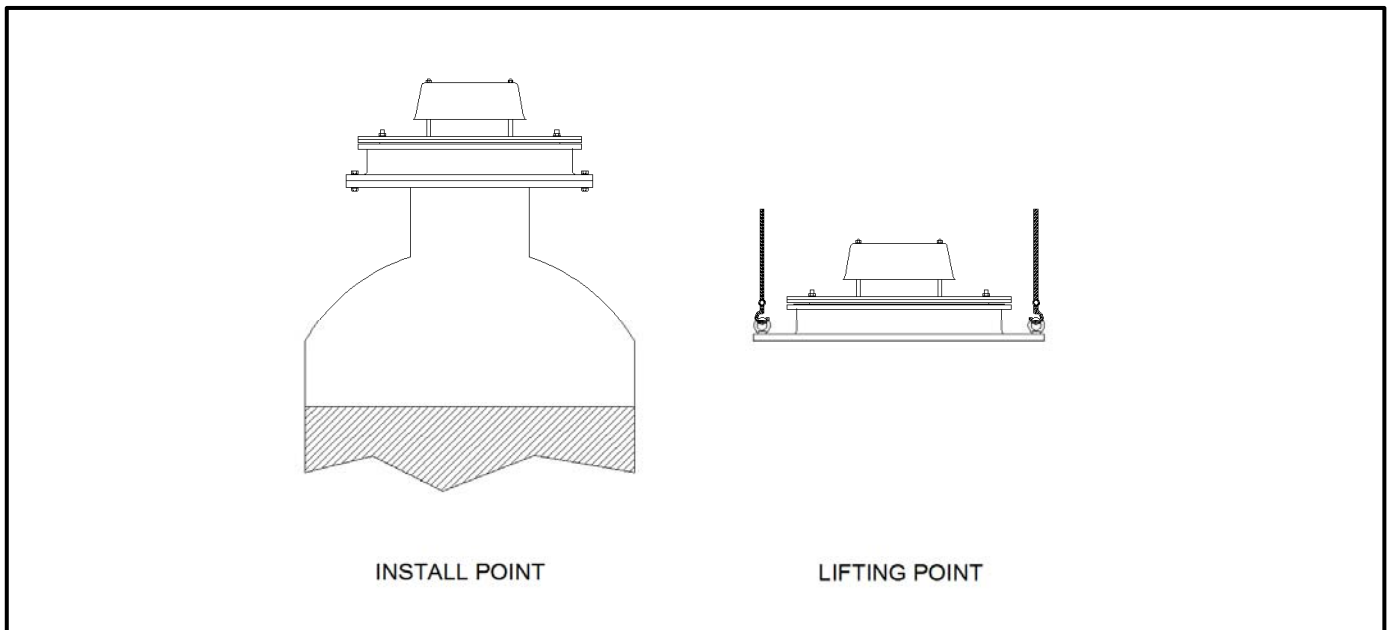

Figure 3.
- 3-1 When the tank is loading phenomena and external fire or Rupture case and the pressure is above the setting (Operational Fixing pressure), the ERV operate automatically to protect the storage tank from inflation (Figure 3).
- 3-2 The Model KSEP/KSEPK/KSEV is weight load type and provides pressure / or vacuum relief (Figure 3).